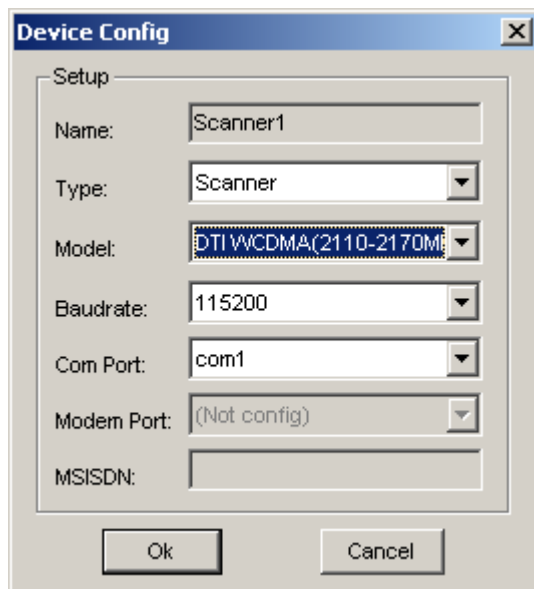

Figure 7-5 Model drop-down list
- 1) Choose **Scanner** in the **Type** drop-down list, as shown in Figure 7-5.